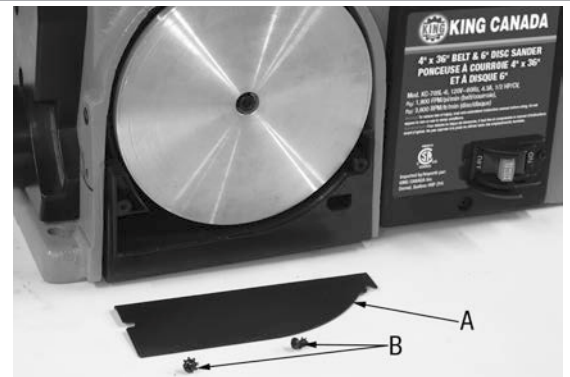

Figure 3
1. Remove the disc guard (A) Fig.3 and two pan head screws (B) using a Phillips screwdriver.